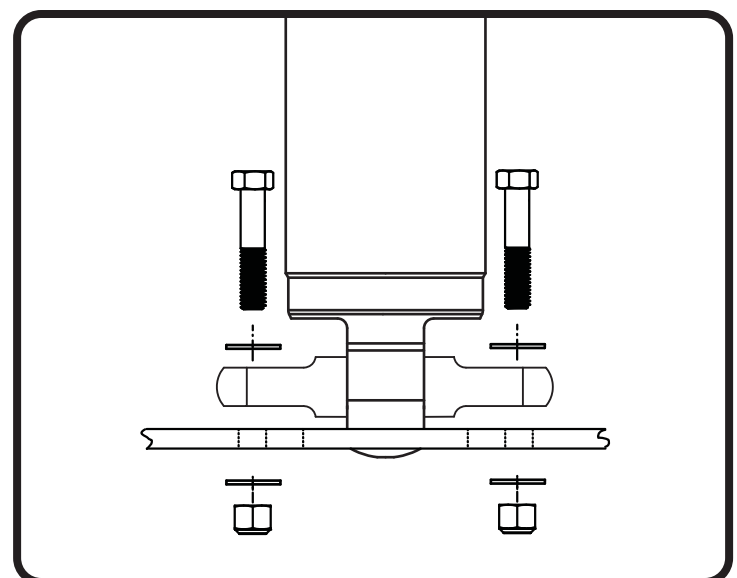

Figure 5
7. Bolt the trunnion to the top of the upper arm using two 3/8" x 1 1/4" bolts, nyloc, and flat washers (Figure 5). Torque to **30 ft-lbs.**